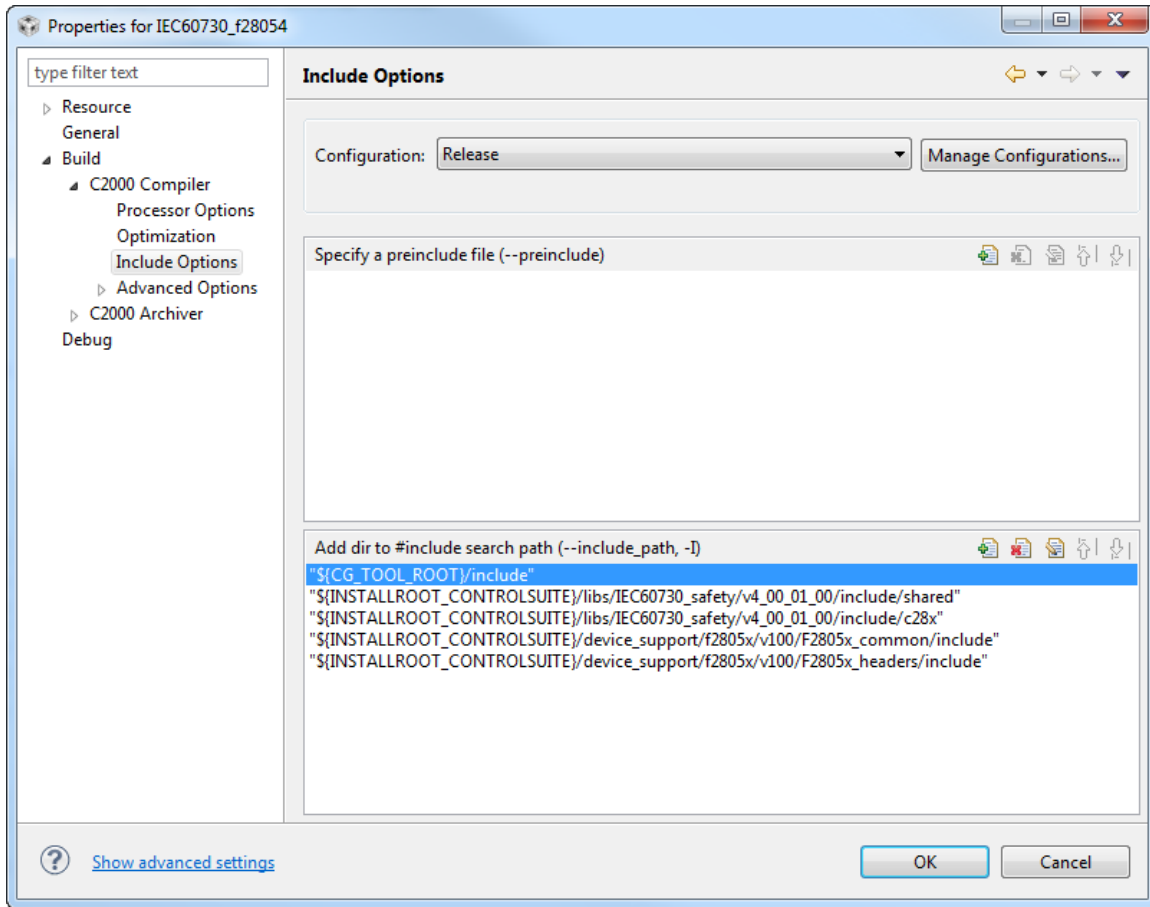

Figure G.2: Adding Header File Directory
7. Add the search path to the version header files required by the source files. Click on **Projects** menu > click on **Properties** > expand to **Build** > **C2000 Compiler** > **Include Options**. Add the following in the **Add dir to #include search path** window. See figure G.2. For example for this library build v100 of the header files and v4\_00\_01\_00 of the safety library was used.